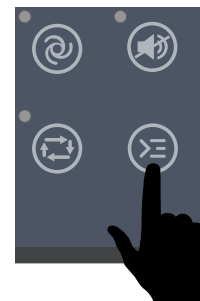

Figure 151. Shortcut Menu Button
1. Press the **Shortcut Menu button** (Figure 151) on the digital controller.